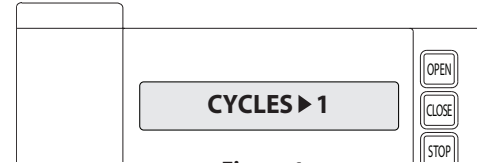

Figure 1
- 2) Press SCROLL  until display reads "CYCLES>1,2,3 etc. where the number is the number of open/close cycles the operator has performed. **Figure 1**.